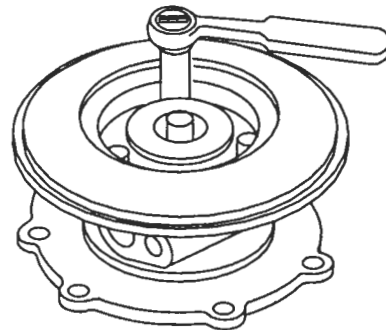

Figure 32. Tightening Thrust Plate Retaining Bolts
15. Place a new lockplate on each backplate or thrust plate bolt and thread the bolts into the center housing. Tighten the 10–24 bolts to 30–40 lb-in (3–5 N·m) torque (T18 turbocharger) or to 90–110 lb-in (10–12 N·m) torque on the 5/16–18 bolts on the T18A or TH08A turbocharger (Figure 32.) Then bend one corner of each lockplate up against the flat side of each bolt head.